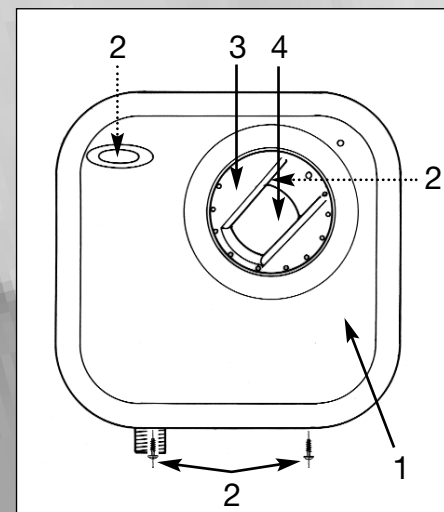
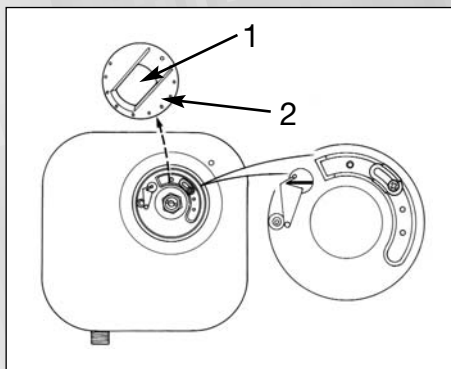
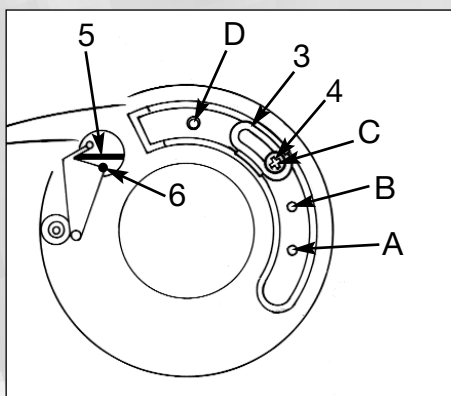

Fig.5. 1000 Plus Thermostatic
Fig.7. Front Cover
Fig.7a. Temperature Limit Stop
Thermostatic - Fig.5.
13. Fix the cover (1) and secure with the four fixing screws (2). Fig.5. Ensure that the Micro Switch metal arm is above the pivot lever on the cover. Fig.7a.
16. Fit the control knob (3) onto the spindle with the no. 1 aligned with the raised dot on the cover. Fit and tighten the control knob fixing screw and turn to the off position with the two 'O' marks aligned. Clip in the control knob cover cap 4).
Temperature Limit Stop - Fig.7a.
Thermostatic - Fig.7. & Fig.7a.
1. Remove the temperature control knob cover (1). Unscrew the retaining screw and pull off the control knob (2). Fig.7.
2. The temperature limit stop adjuster (3) has four positions A, B, C & D, giving a range of temperature adjustment settings from cool to hot A being the coolest. Fig.7a.
3. If adjustment is necessary, remove the locking screw (4) and relocate adjuster (3) in fixing position A, B, C or D, depending on the user's requirement for maximum temperature.
5. Retighten locking screw (4). Re-fit the control knob onto the spindle with the No.1 aligned with the raised dot on the cover. Switch on shower, rotating